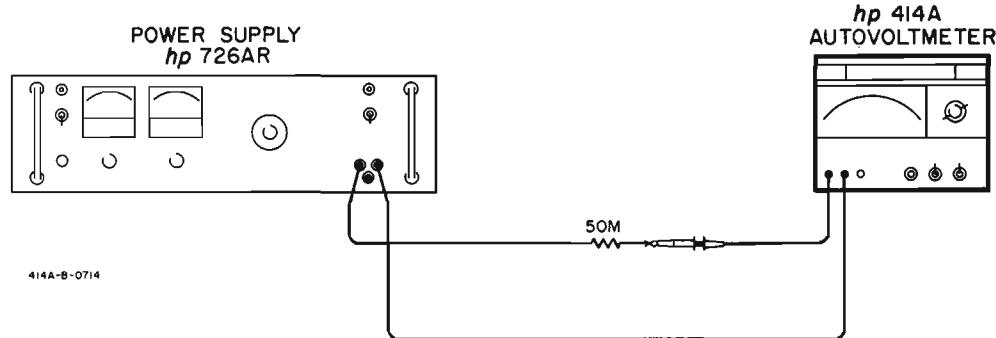

Figure 5-3. Input Resistance Check
- Connect 414A, power supply, and 50 megohm resistor in series as shown in Figure 5-3.